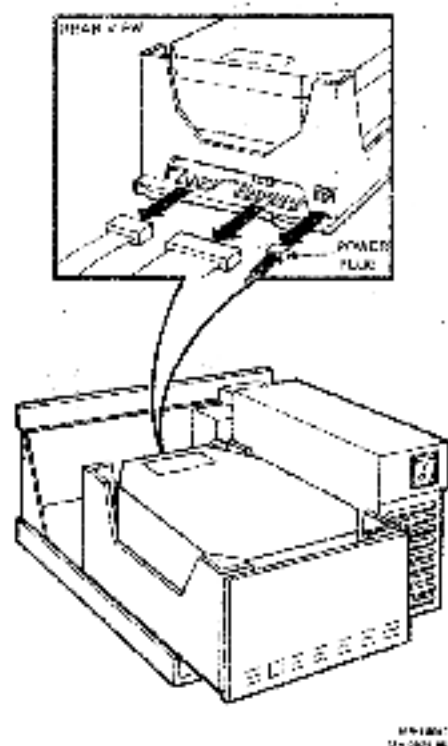

Figure 4-4 Removing the Power Cord and Drive Cables
5. Disconnect the dc power connector from the back of the RD54 drive (Figure 4-4).
6. Pull the fixed disk drive cable straight out of the back of the RD54 drive (Figure 4-4). Do not pull this cable out at an angle to the RD54 drive.